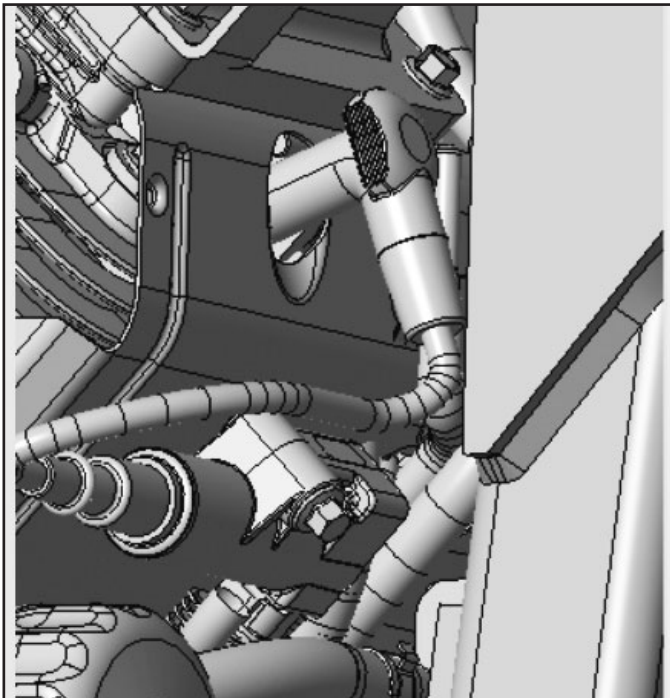

Figure 45: Spark plug location
2. Spark plugs are accessible with a socket extension. Replace with like plug and set gap to .76 mm (0.03 in) See **Figures 45** and **46** for locations.